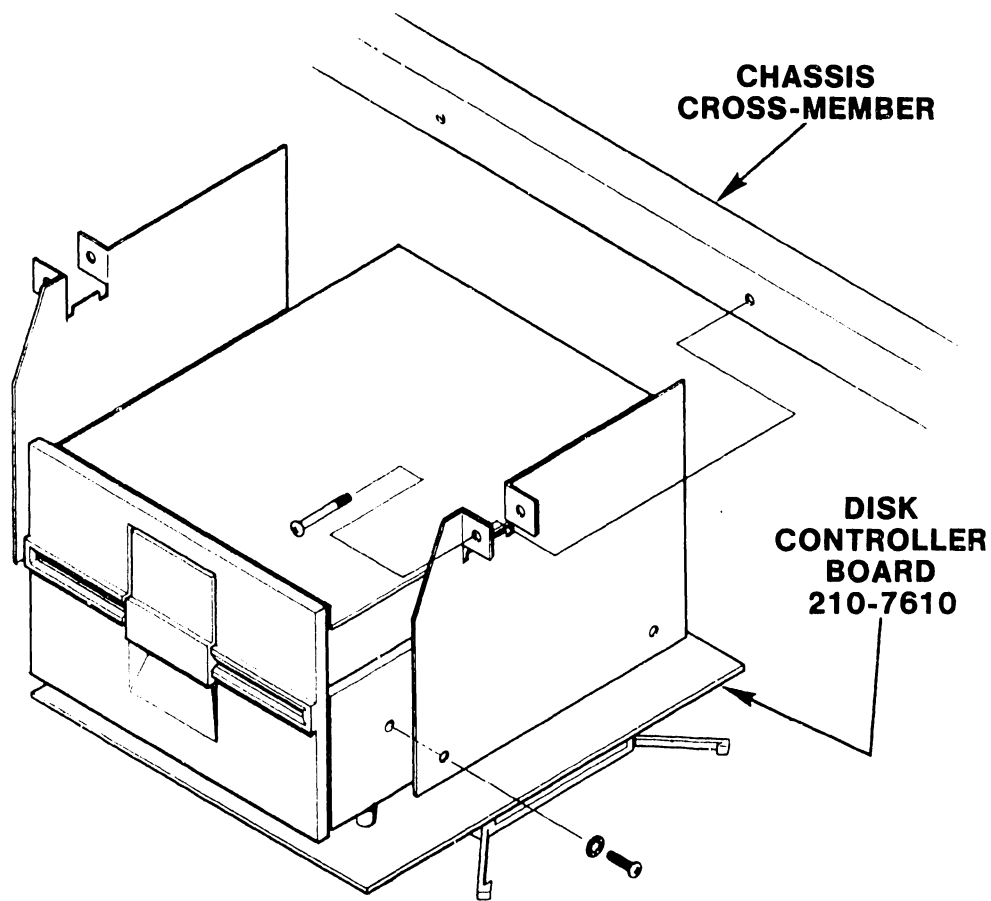

FIGURE 6-2 REMOVING THE SA-400 MINIDISKETTE DRIVE
3. Remove the mini-drive from the Mainframe (see Figure 6-2) and set it UPSIDE down on an INSULATED work surface sufficiently low enough to re-attach the minifloppy connector plugs.